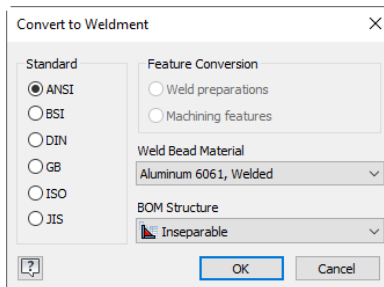

Figure 16-28 The **Convert to Weldment** dialog box
2. Choose **Yes** in the warning box; the **Convert to Weldment** dialog box is displayed, as shown in Figure 16-28.